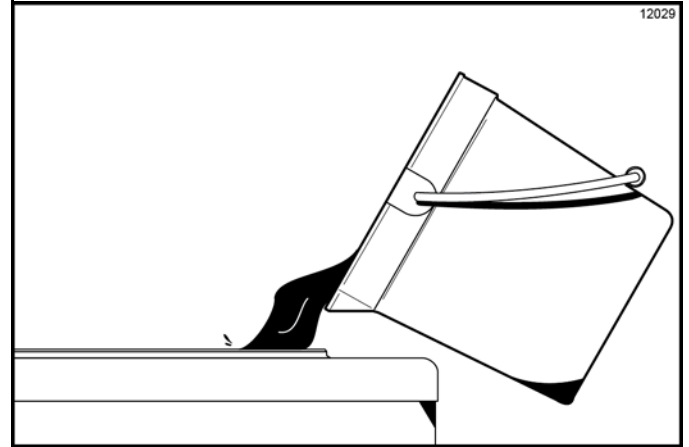

Figure 6-116
1. Pour 2 gal. (7.6 L) of cool, clean water into the shake mix hopper. With the white hopper brush, scrub the mix hopper, mix-level sensing probes, and the outside of the agitator driveshaft housing. Using the double-ended brush, brush clean the mix inlet hole. (See Figure 6-116.)